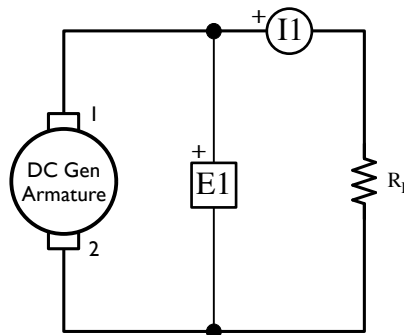

Figure 3.5: DC Generator Armature Circuit, with Load
- 24. With the power off, modify the connections to add a resistive load  $R_L$  across the generator output as shown in Figure 3.5. Use all nine resistors of the *resistive load module* connected in parallel to implement resistor  $R_L$ . Meter I1 measures the load current  $I_o$ .